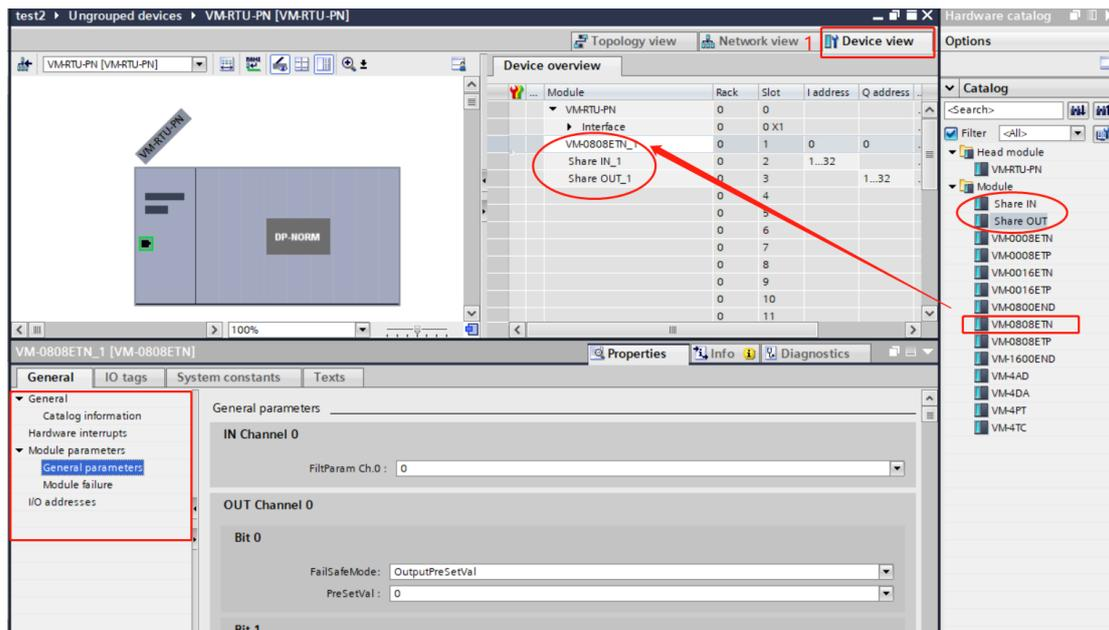

Figure 5 Module configuration
2. Double-click the "VM-RTU-PN" device in the configuration, and then enter the "Device view" window to configure the modules. Add VM-0808ETN, Share_in and Share_out modules in turn, then the software will automatically assign I address, Q address and Share_in and Share_out parameters as shown in Figure 5.